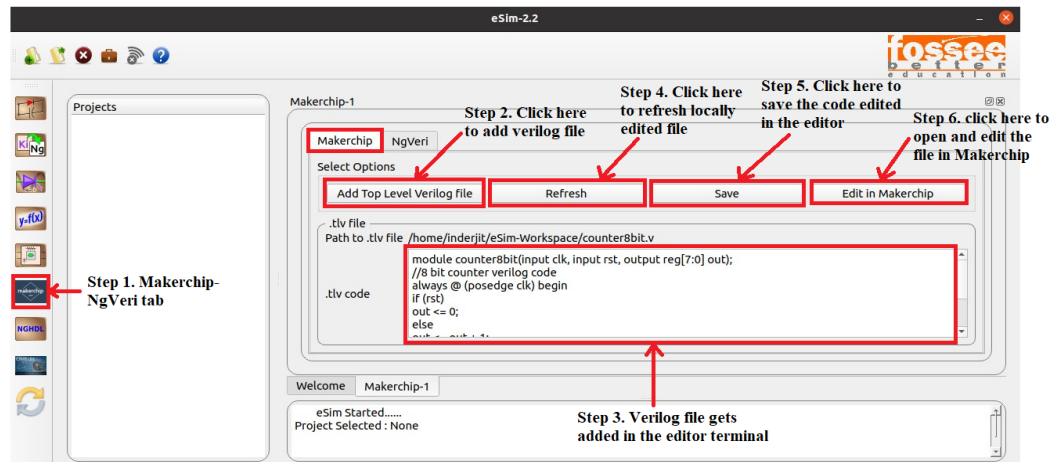
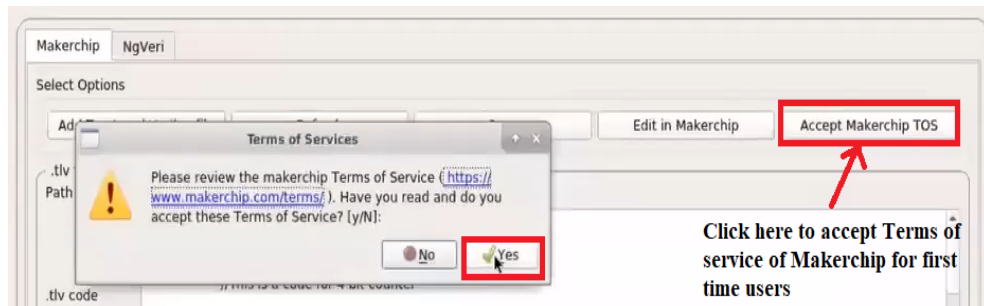

Figure 11.10: Adding verilog file in Makerchip editor
Figure 11.11: Accepting Terms of Service of Makerchip
5. Click on Makerchip-NgVeri button on the left toolbar of eSim window which opens Makerchip interface in eSim as shown in Fig. 11.10.
6. Click on the button shown in Step 2 as shown in Fig. 11.10 to add the verilog file for 8 bit counter. The path to top level verilog file along with the verilog code get added in the Makerchip editor terminal shown in Step 3 of Fig. 11.10
7. User can refresh locally edited verilog file by clicking on the **Refresh** button as shown in Step 4 of Fig. 11.10. If the file is edited using some other editor and also loaded in Makerchip Tab at the same time, the **Refresh** button starts toggling. The user must click on the Refresh button to get the new version of the file in the editor.
8. User can save the verilog code edited in the Makerchip editor terminal by clicking on the **Save** button shown in Step 5 of Fig. 11.10
9. For the first run, the user needs to accept the Term of Service by clicking on **Accept Makerchip TOS** as shown in Fig. 11.11. This button will disappear after rerun of eSim as shown in Fig. 11.10.
1. The verilog code named counter8bit.v is loaded in editor space of Makerchip tab as shown in Fig. 11.10.